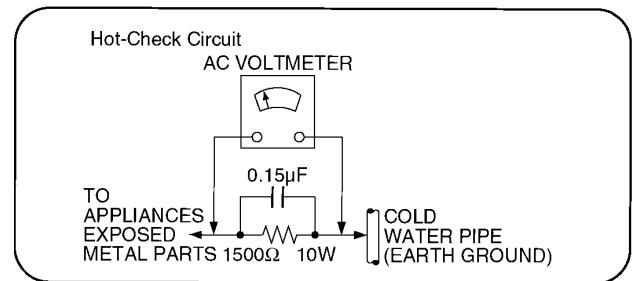

Figure 1
1.1.2. Leakage Current Hot Check (See Figure 1.)
2. Connect a 1.5kohm, 10 watts resistor, in parallel with a $0.15\mu F$ capacitors, between each exposed metallic part on the set and a good earth ground such as a water pipe, as shown in Figure 1.